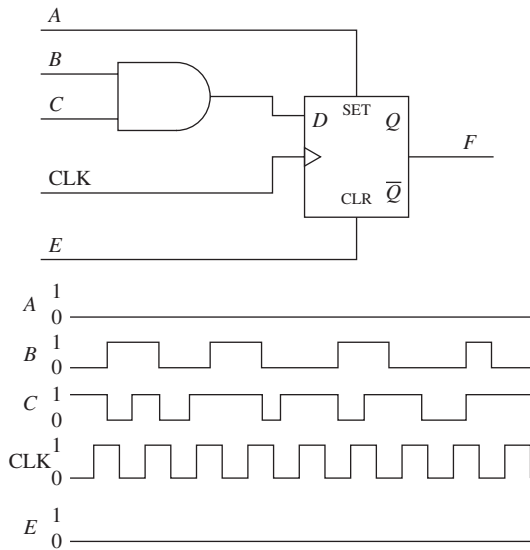

FIGURE P10.64 Logic circuit and its input.
10.64 (A) A logic circuit and its input wave form are given in Figure P10.64. Assuming its initial output is 0, draw the output of the logic circuit with these input signals.